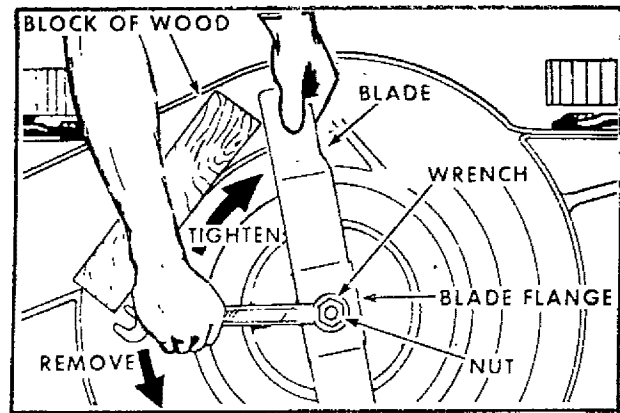

FIG. 20
1. To remove the blade and blade flange, turn mower on its side with carburetor and air filter up (See Fig. 20).
2. Take blade nut off by turning counter-clockwise. Use a 15/16" box or open end wrench on the blade nut (See Fig. 20).